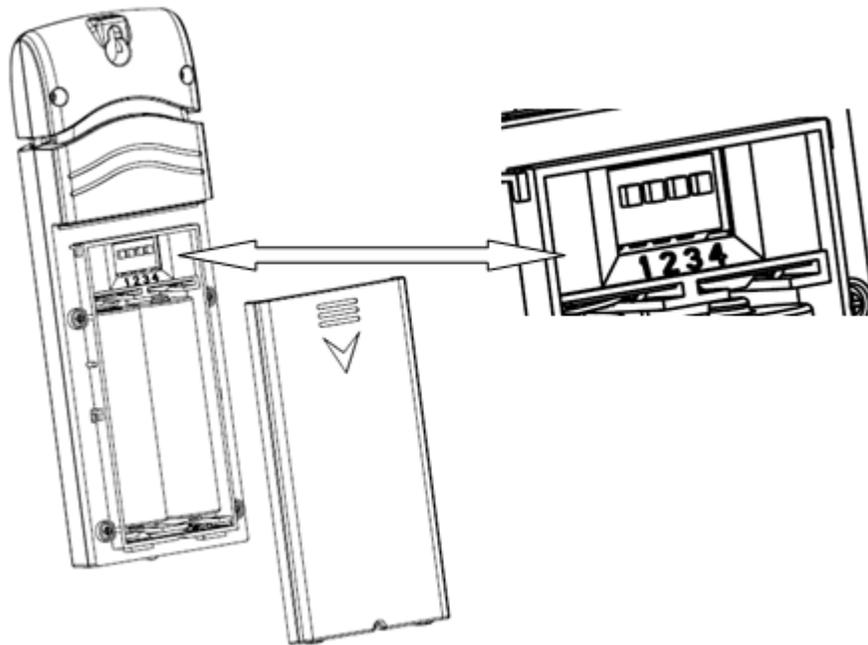

Figure 12
1. Remove the battery door on the back of the transmitter(s) by sliding down the battery door, as shown in Figure 12 .